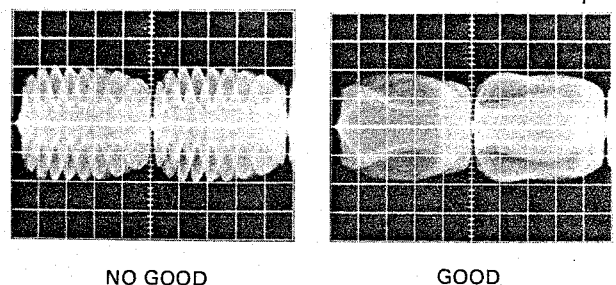

Fig. 6-4-13
- Adjust V. SIZE VR225 for minimum beat during the vertical period. (Fig. 6-4-13)